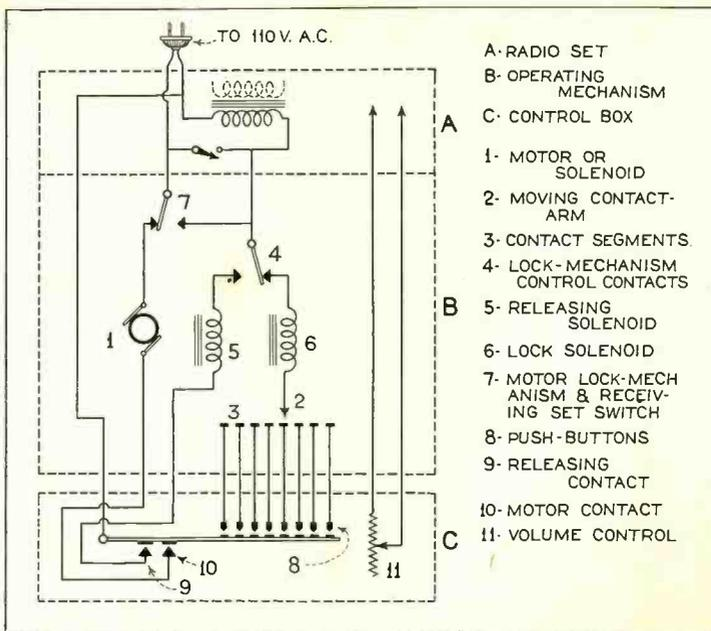

Fig. 4. Schematic diagram, and legend, of the remote tuning control. Contact 10 is the "off" push-button on the station selector control box. See Fig. 3.
**B. Action of Kyle Reproducer:** The Kyle reproducer is shown diagrammatically in Fig. 4. It consists essentially of a perforated metal back plate  $a$  having corrugations or other undulated surface, a flexible dielectric diaphragm  $b$  stretched over this back plate so as to bridge across the de-
A more accurate idea of the operation can be obtained from the schematic diagram of Fig. 4.
Contact (10), in Fig. 4, is the "off" button. Pressing this button turns off the radio set and returns the control mechanism to normal position.